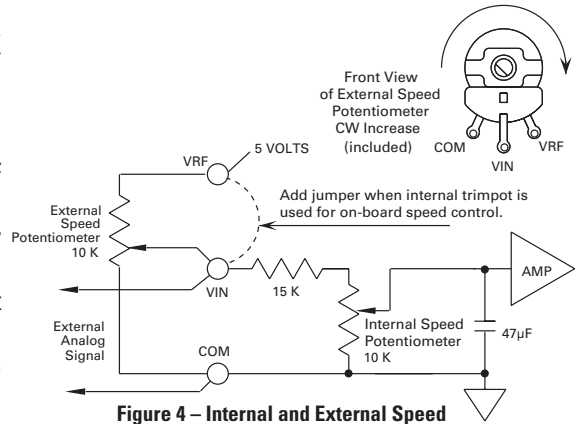

Figure 4 – Internal and External Speed Potentiometer Connections
4. Refer to Figure 4 and insert the potentiometer leads into the interface connector as follows:
Motor speed can be controlled by applying a 0 to 5 VDC analog voltage across the VIN and COM terminals of the interface connector J2. Refer to Figure 4. Speed is increased by increasing the voltage level applied to VIN (Pin J2-2). 0 VDC = 0 RPM; 5 VDC = Max. RPM.
In order for the MAX potentiometer to function as a speed control, a jumper must be placed across terminals VRF and VIN on the interface connector as indicated by the dashed line in Figure 4. Form a jumper from a short length of wire terminated on each end with the pins supplied with the interface connector.